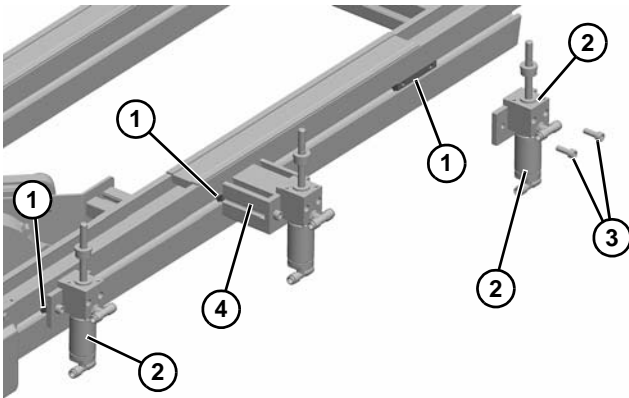

**Figure 86**
4. Insert grommets (**Figure 86, item 1**) into holes of corner guide. Install corner guide (**Figure 86, item 2**). Position cylinder assemblies so that the washers and clamp collars (**Figure 86, item 3**) are in the circular openings in the bottom of the guide.
5. Thread flange lock nuts (**Figure 86, item 4**) onto cylinder shafts, but do not tighten.
6. Finger tighten screws (**Figure 86, item 5**) on cylinder assemblies.